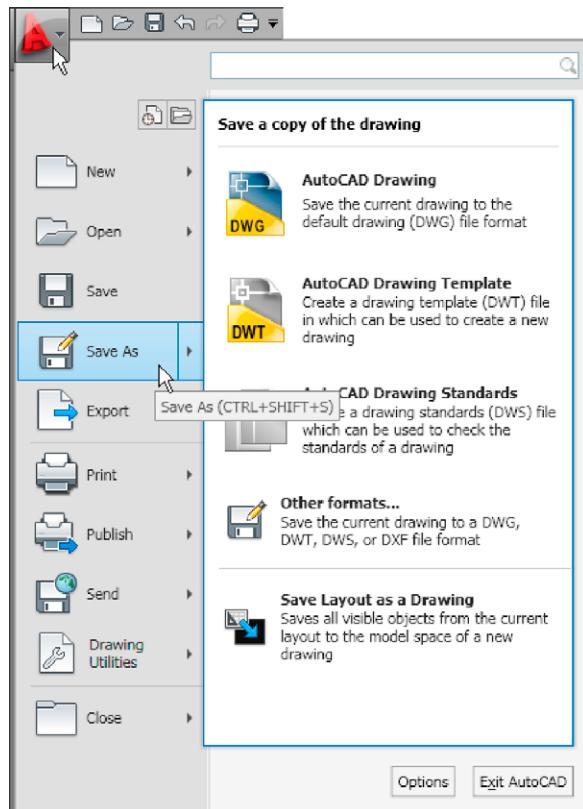
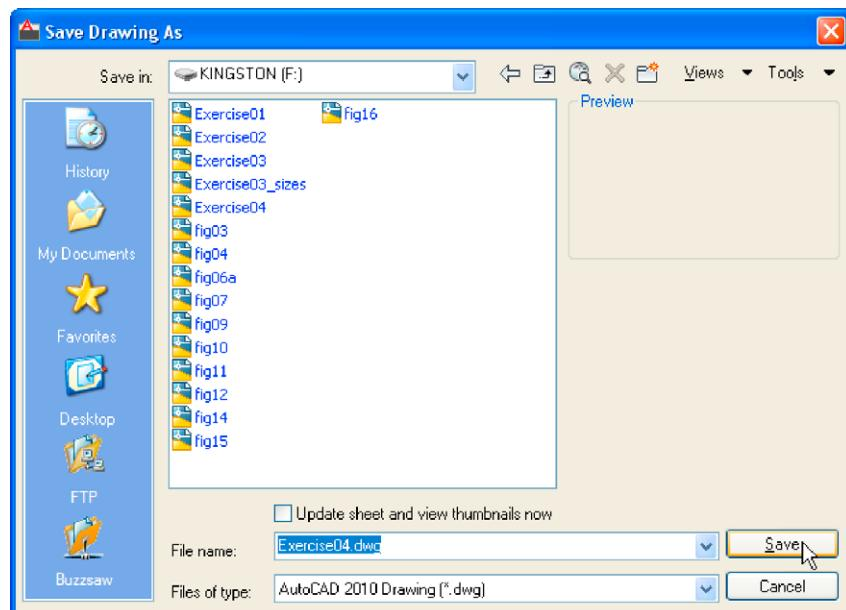

Fig. 3.9 Selecting Save As from the Quick Access menu
Fig. 3.10 The Save Drawing As dialog
Before going further it is as well to know how to save the drawings constructed when answering examples and exercises in this book. When a drawing has been constructed, *left-click* on **Save As** in the menu appearing with a *left-click* on the AutoCAD icon at the top left-hand corner of the window (Fig. 3.9). The **Save Drawing As** dialog appears (Fig. 3.10).
4. *Left-click* the **Save** button of the dialog. The drawing will be saved with the file name extension **.dwg** – the AutoCAD file name extension (Fig. 3.10).